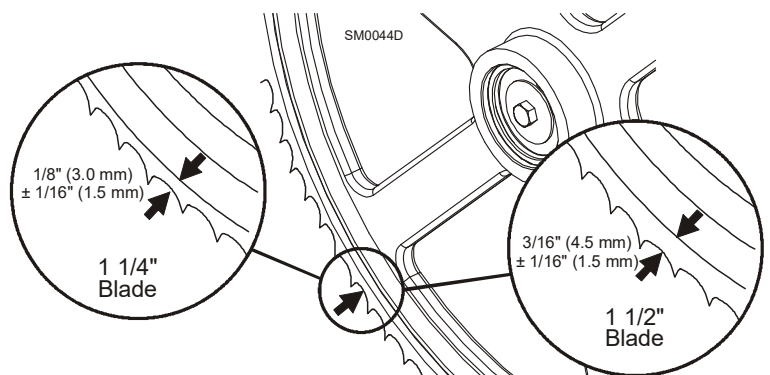

FIG. 3-12
7. Use the cant control to adjust where the blade travels on the blade wheels as shown above in **Figure 3-12** .
8. Adjust the wheel by turning the cant control until the gullet of the blade is the correct distance from the front edge of the wheel. **See Fig. 3-12.**